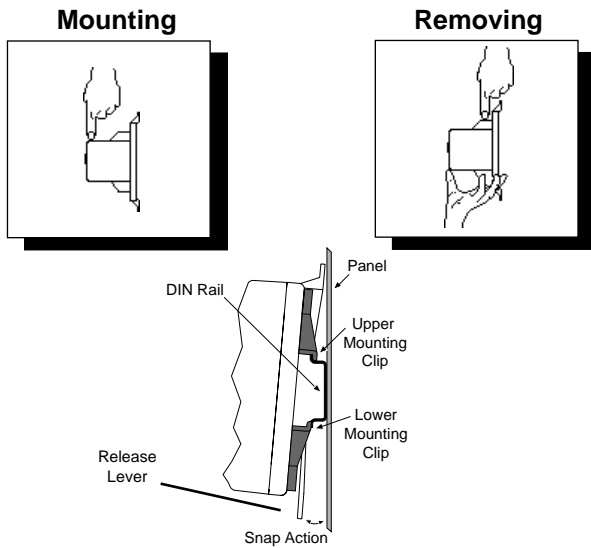

Figure 2 - Series 92 Side View Mounting
1. Place the Series 92 upper mounting clip on the top edge of the DIN rail. See Figure 2.
2. Press down firmly on the top front edge of the Series 92, see Figure 2 *Mounting* for location. The control "snaps" securely onto the rail. If the control does not snap on, check to see if the DIN rail is bent. The DIN rail specification is DIN EN 50022, 35 mm X 7.5 mm. Minimum clipping distance is 1.37" (34.8mm), the maximum is 1.39" (35.3mm).
1. Place your fingers on the release lever located at the base of the Series 92. See Figure 2 *Removing*.
2. While gently pressing on the top of the case, above Terminals 1 - 9 (see Figure 2 inset), pull forward on the release lever.